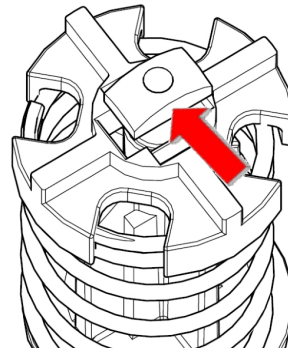

Figure 5
3. Move the switch lever to the "ON" (raised) position to start the motor (figure 5). The pump should start and settle into a slow idle.
2. Push the bypass valve retainer down over the locking tab on the bypass valve. Push the retainer down (compressing the spring) until it is completely below the locking tab (Figure 5).